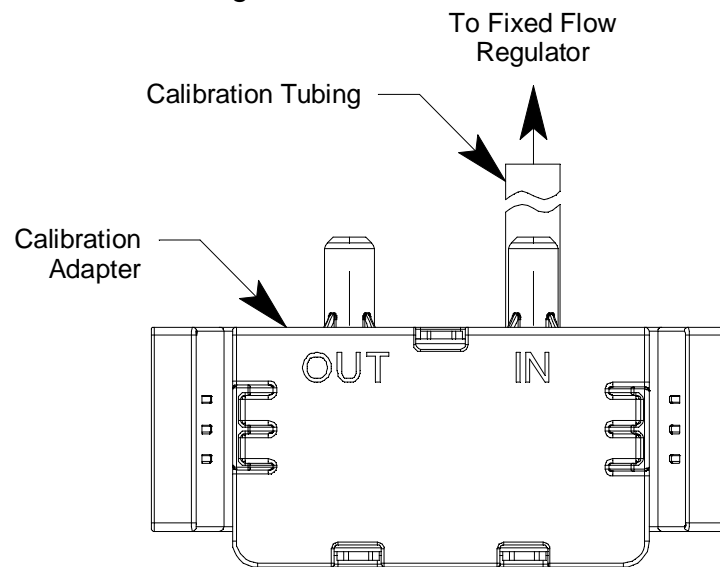

Figure 9: Calibration Kit Assembly
- Use the sample tubing to connect the calibration adapter to the regulator. Attach the tubing to the calibration adapter on the inlet side as shown below in Figure 9.